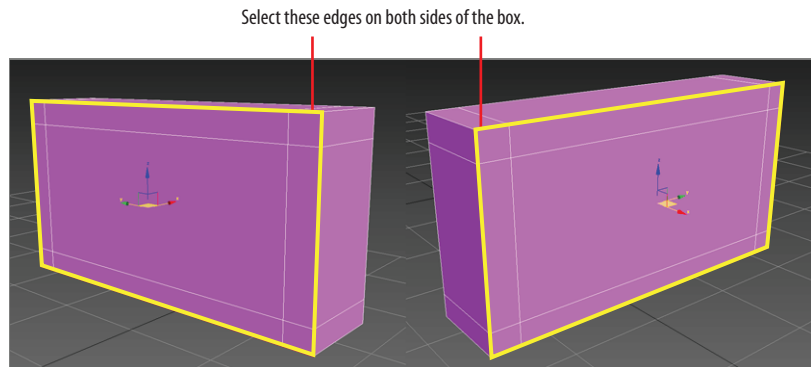

FIGURE 4.7 Select the highlighted edges.
1. In the modeling ribbon, select Polygon Modeling and click the Edge mode button; then select the edges on the box that are identified in Figure 4.7.